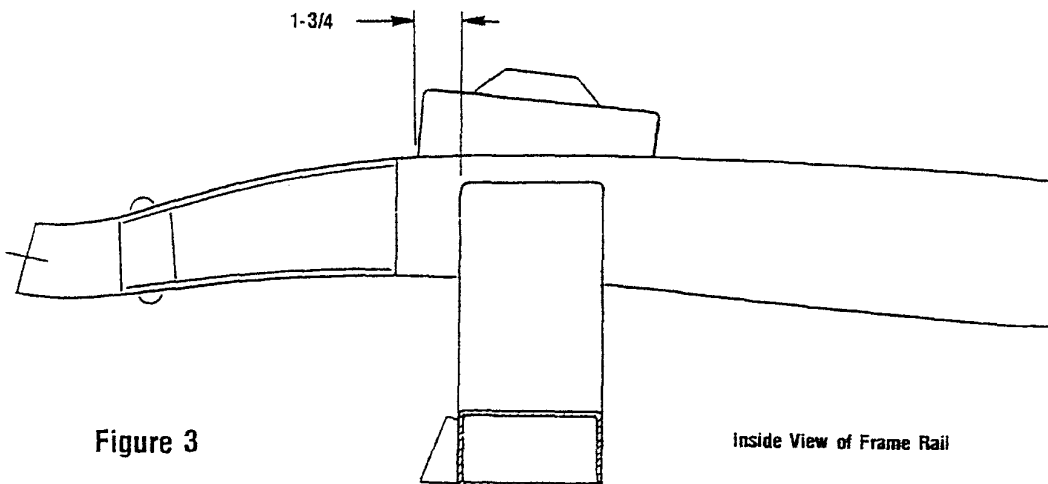

Figure 3
6. Next are the spring towers. They sit on top of the frame rails, and are located as shown in Figure 3, (1-3/4" forward of the crossmember measuring from the front of the crossmember to the front of the spring tower). The higher side of the spring tower goes towards the front of the frame. Clamp in place, double check your dimensions, then weld all around, including the gusset flanges on the sides of the rails. For added strength, you can also weld the inside of the gusset flanges.